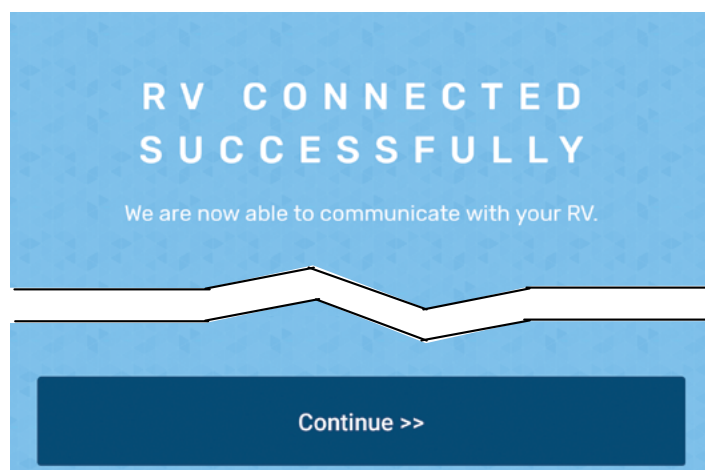

Fig.8
7. When the screen indicates the RV has successfully connected (Fig.8), tap the Continue button to proceed with setup.